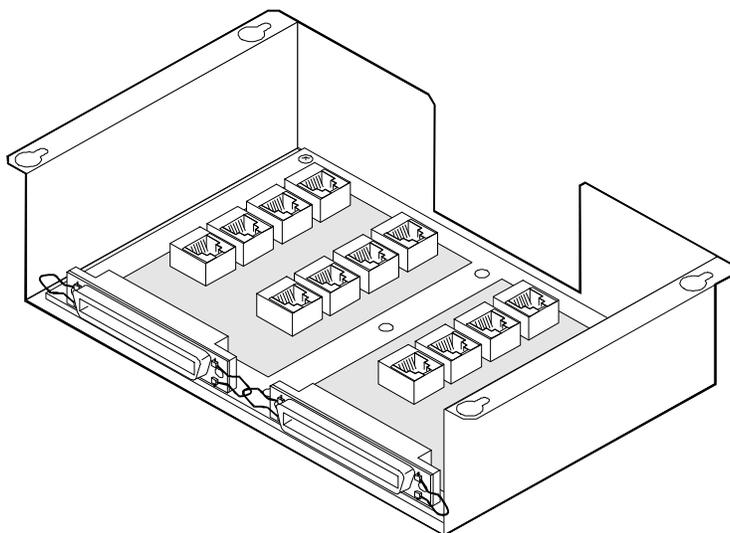
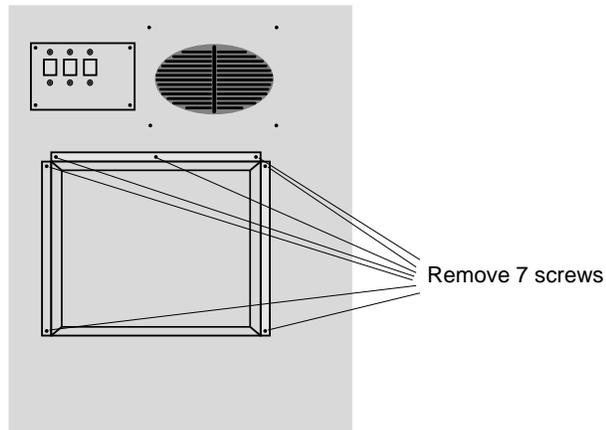

Figure 10-12. MAP/100 Tip/Ring Distribution Panel Assembly Mounted inside a Larger Cover for the Termination of 48 Lines
Figure 10-13. Where to Attach the Tip/Ring Distribution Panel
Figure 10-12 shows the MAP/100 T/R distribution panel assembly. Figure 10-13 shows where to attach the distribution panel(s) to the MAP/100.
5. Remove the seven screws that secure the distribution panel cover. This cover is located in the center of the rear of the MAP/100 and extends approximately 1-1/2 in. out from the chassis (Figure 10-13).